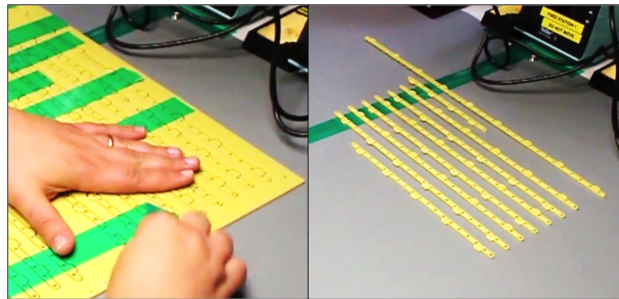

Figure 32: Removing the internal frames.
Step 1: To remove the frames from their support, hold them in place with one hand while gently removing the tape (Fig. 32). Proceed with great care, the frames are very thin and can be easily damaged when pulling the tape off.